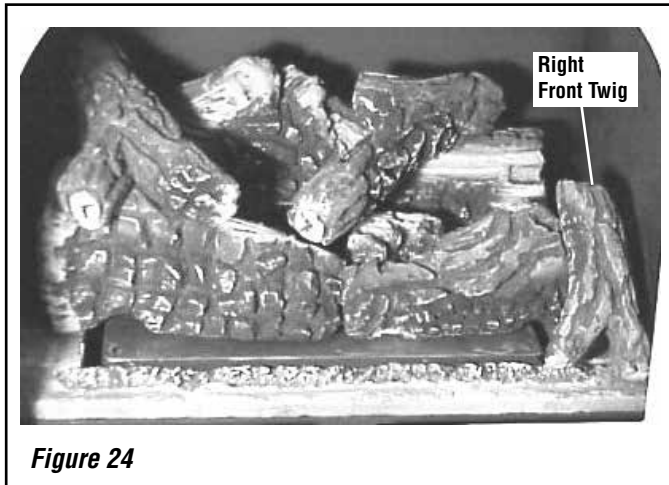

Figure 24
8. Install the front right twig onto the corresponding pin on the right front log. Align the twig with the indentation on the front right log as shown in **Figure 24**.